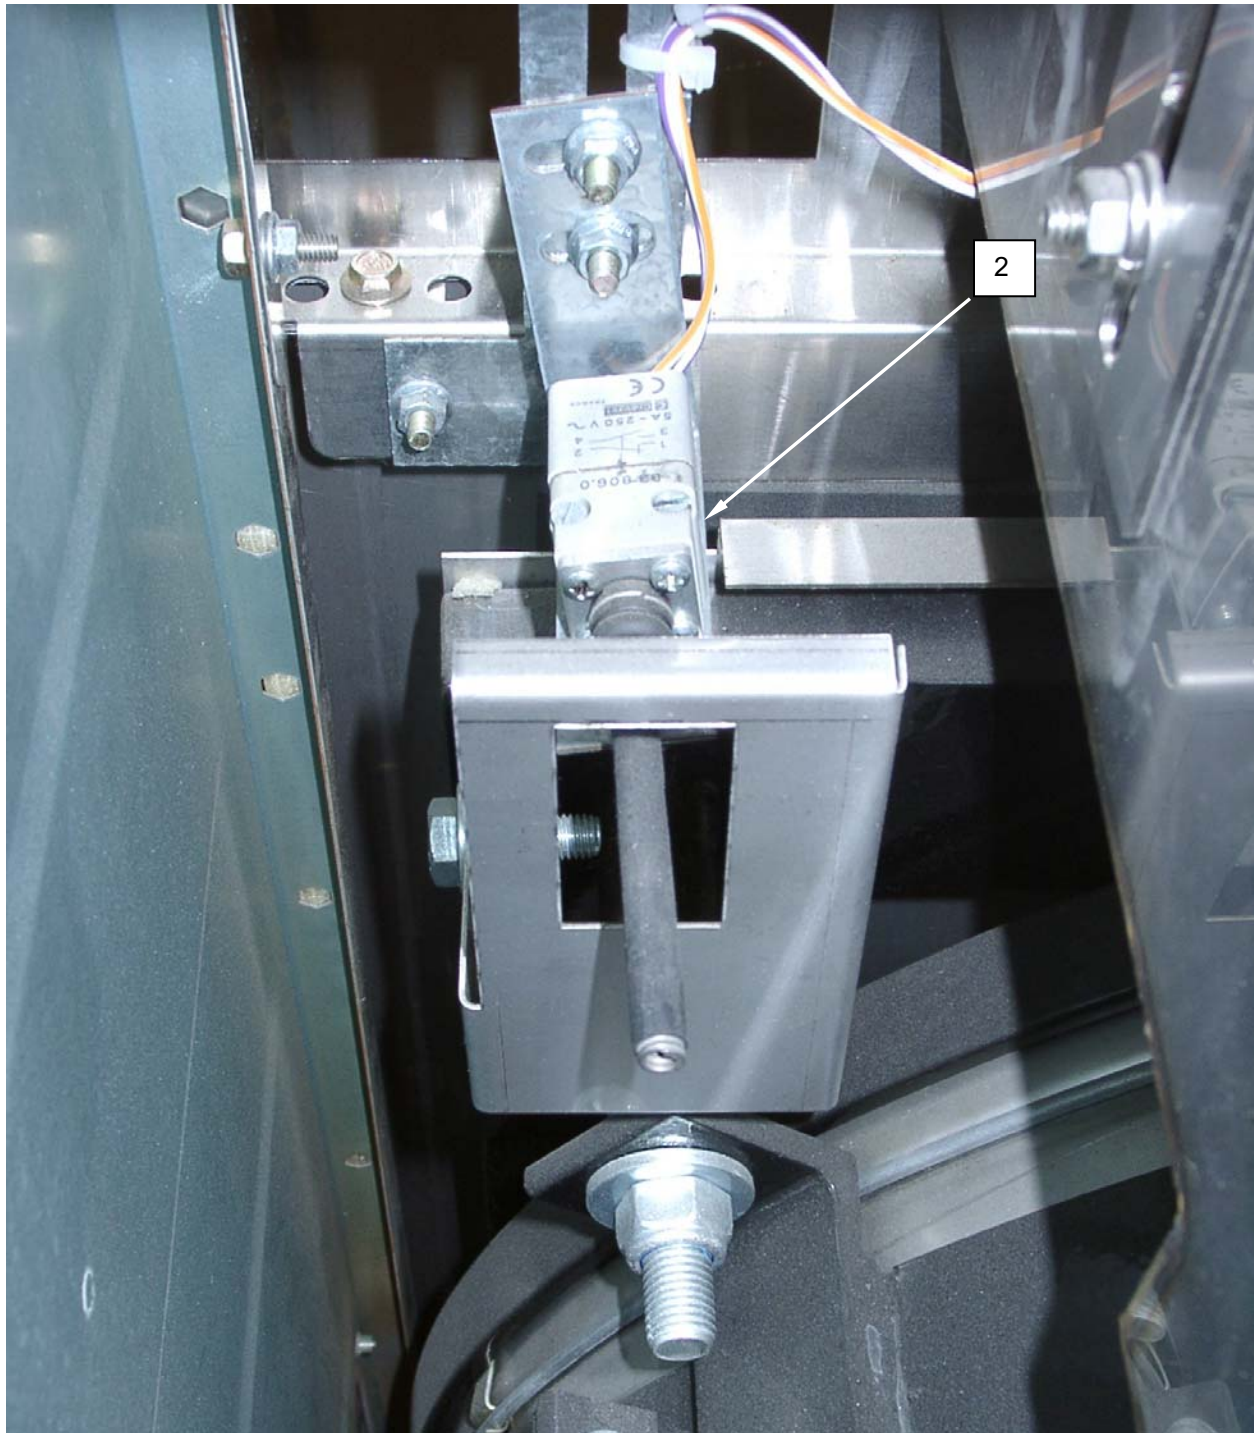

Figure 5. Replace the Washer Balance Switch.
2. Tag and disconnect wiring from balance switch (**Figure 5, Item 2**).
3. Remove screws retaining balance switch (**Figure 5, Item 2**), and remove balance switch.
4. Install replacement balance switch (**Figure 5, Item 2**), and retain with screws.
5. Adjust replacement balance switch (**Figure 5, Item 2**) IAW procedures described in this WP.